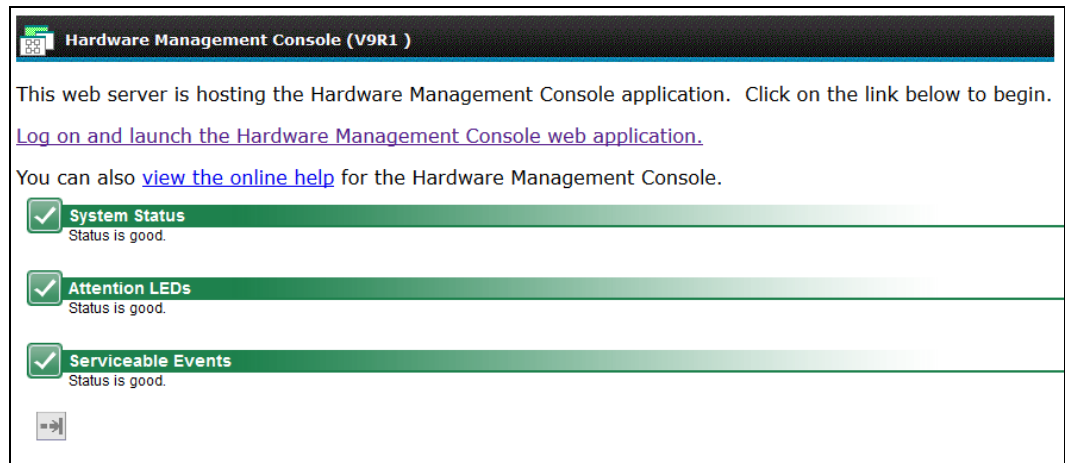

Figure 6-12 Service Management Console application
2. Click **Log on and launch the Hardware Management Console web application** to open the login window, as shown in Figure 6-12 on page 181, and log in. The default user ID is customer and the default password is cust0mer.